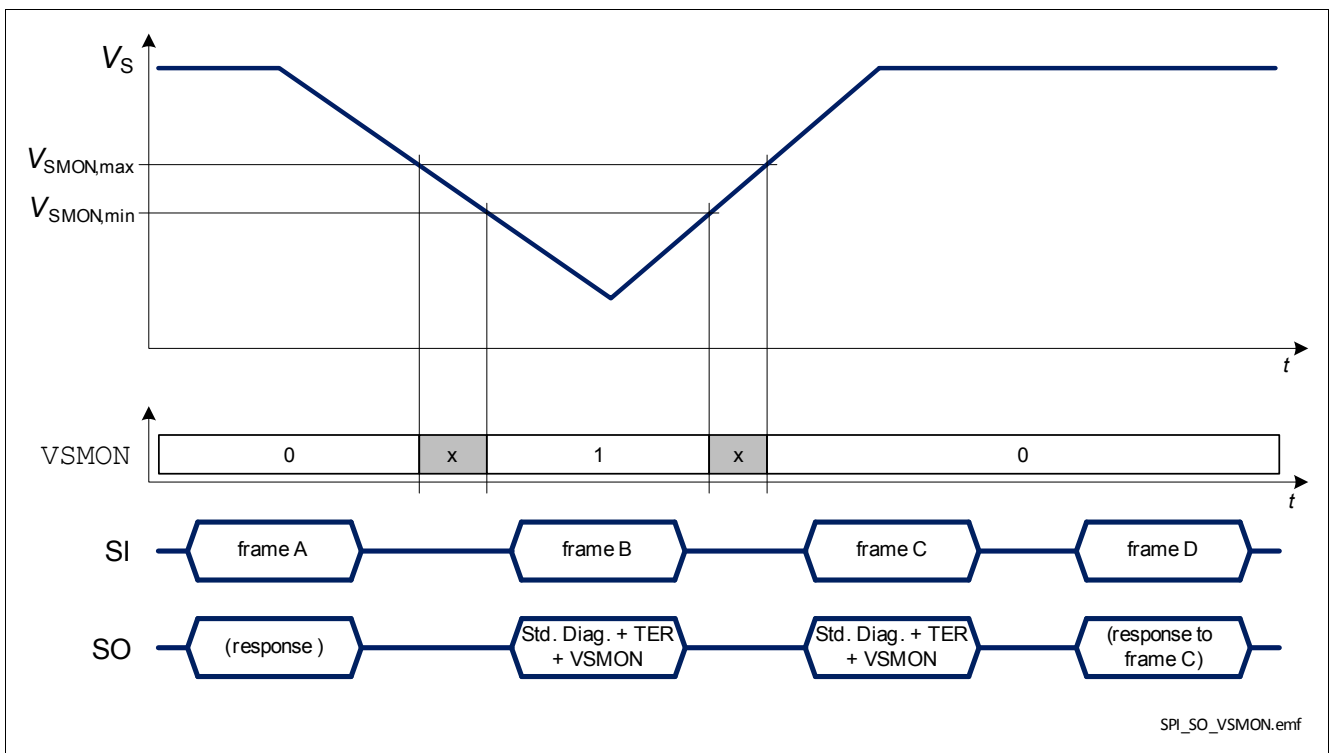

Figure 35 BTS56033-LBA response in case of a negative battery voltage transient
- when $V_S < V_{SMON}$ and $\text{DCR.MUX} \neq 111_B$, as shown in Figure 35